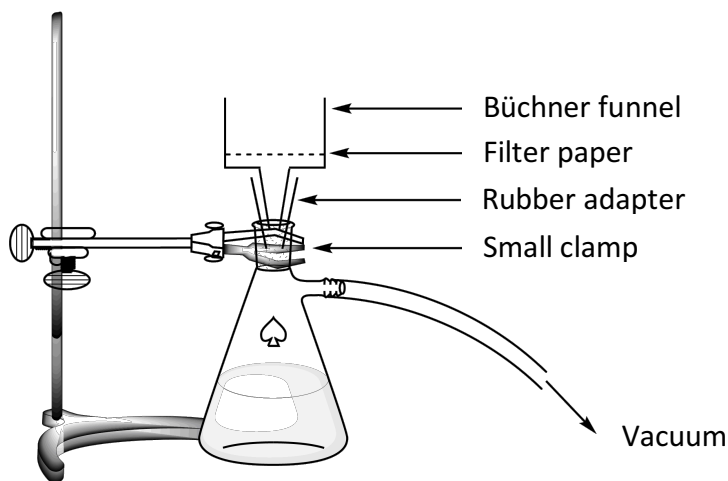

Figure 2. Setup for the vacuum filtration
7. **Set up** a vacuum filtration apparatus (see Figure 2) using a Büchner funnel, *one* filter paper and a suction flask. Clamp the suction flask to the laboratory stand with a small clamp. **Raise** your HELP card. A lab assistant will come and show how to connect the suction flask to the vacuum source.